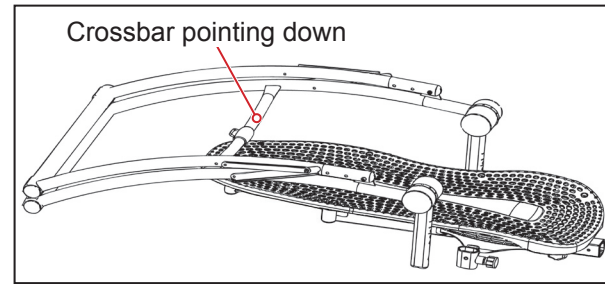

Figure 3
- Position the A-frame on the floor with the crossbar pointing down, so that the frame is resting on the Rotation Adjustment Arms (Figure 3).